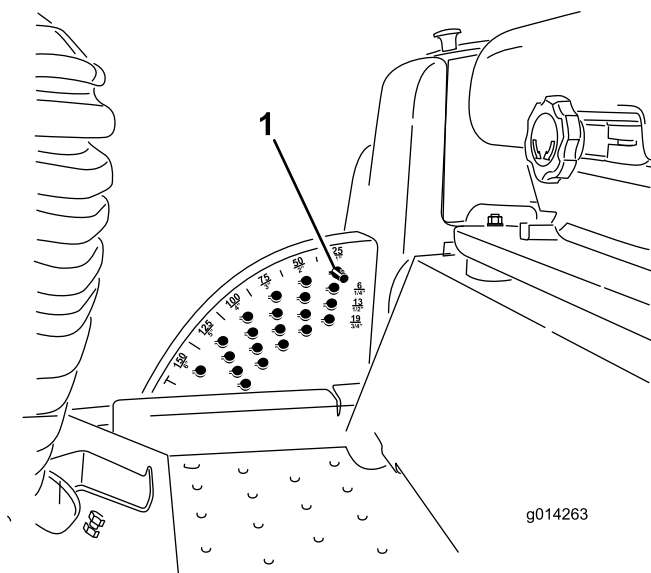

Figure 15
Note: To lock the mower deck in a raised position, raise the deck past the 15 cm (6 inch) position, remove the height of cut stop pin (refer to Adjusting the Height-of-Cut \(page 20\), and place the pin in the 15 cm (6 inch) height-of-cut position (Figure 15).
1. With the engine running, push back on the deck lift switch until the mower deck is fully raised and **release the switch immediately** (Figure 15).
2. To adjust, rotate the stop pin until the nub on it lines up with the slots in the holes in the height-of-cut bracket and remove it (Figure 15).
3. Select a hole in the height-of-cut bracket corresponding to the height-of-cut desired, insert the pin, and rotate it down to lock it in place (Figure 15).
Note: There are 4 rows of hole positions (Figure 15). The top row gives you the height of cut listed above the pin. The second row down gives you the height listed plus 6 mm (1/4 inch). The third row down gives you the height listed plus 12 mm (1/2 inch). The bottom row gives you the height listed plus 18 mm (3/4 inch). For the 15.8 cm (6 inch) position there is only 1 hole, located in the second row. This does not add 6 mm (1/4 inch) to the 15.8 cm (6 inch) position.